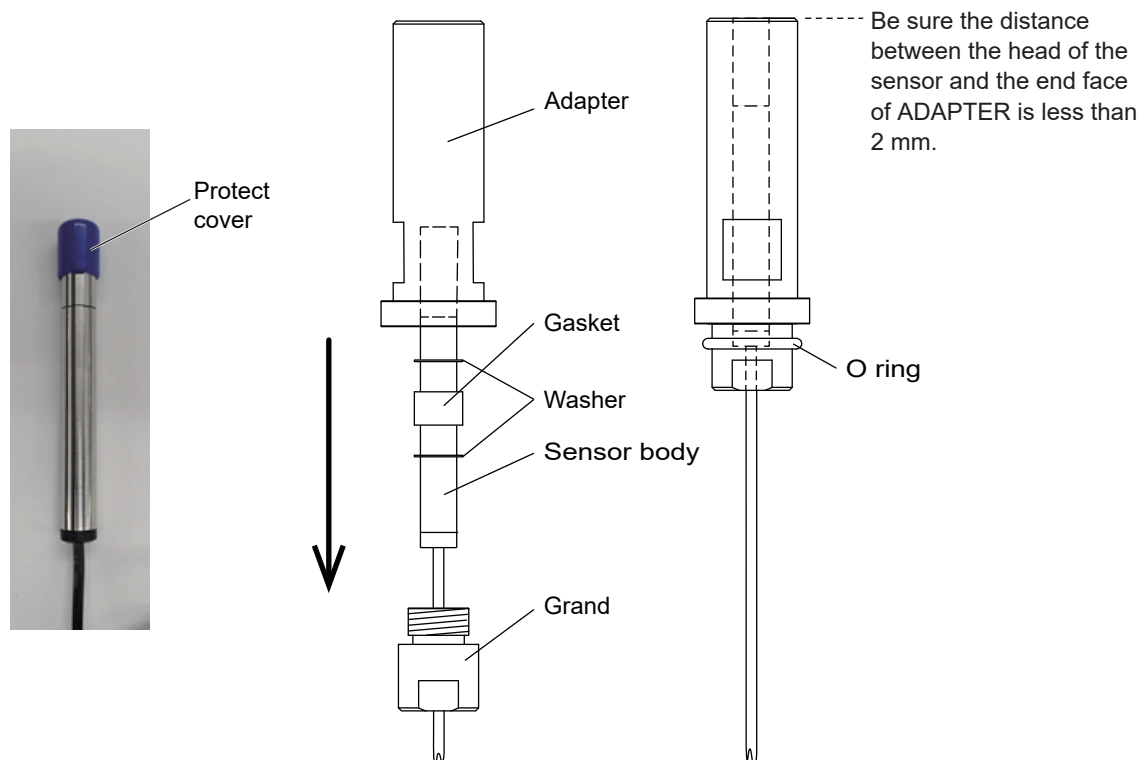

Figure 3.1 Adapter Installation on the sensor
- (1) Pass GLAND from the cable side and place the bottom of the sensor on GLAND as shown in the posture of the Figure 3.1.
- (2) Remove the protective cover put on the head of the sensor. Pass WASHER, GASKET, WASHER, ADAPTER from the head of the sensor side.